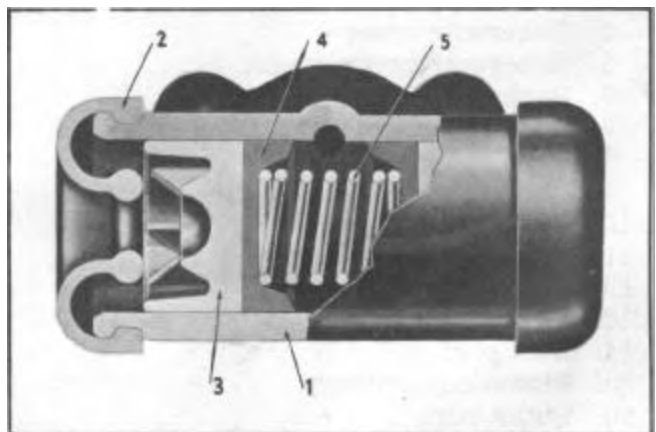

FIGURE 4
1. Remove cylinder end guards (2), Figure 4.
2. Remove pistons (3).
3. Remove piston cups (4).
4. Remove piston cup springs (5).
3. Assemble as shown in Figure 4.